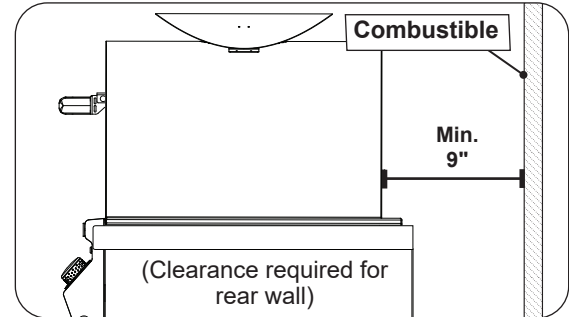

Fig. 18-3 Clearance 'C' Diagram
- The unit must have a minimum clearance of 9" from the combustible rear wall (see Fig. 18-3).